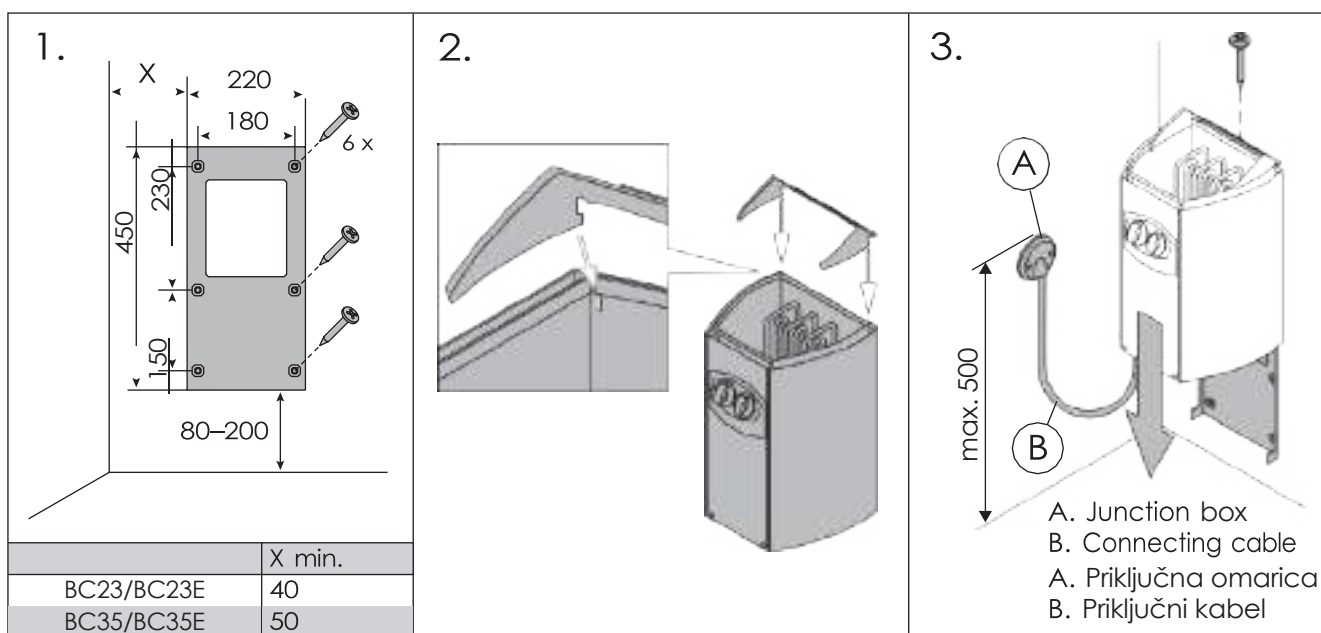

Figure 7. Fastening the heater on a wall (all dimensions in millimeters)
| Width/širina 280 mmDepth/globina• BC 295 mm• BC-E 270 mmHeight/višina 505 mmWeight/teža 7 kgStones/kamnimax. 12 kg |                    | ▷ 2.3.                 |                        |                  | See fig. 7. The measurements apply to the connecting cable only!Glej foto 7. Meritve se nanašajo izključno na priključni kabel! |        |   |        |                   |
See figure 7.
- The heater is semi-stationarily connected to the junction box (figure 7: A) on the sauna wall. The junction box must be splash-proof, and its maximum height from the floor must not exceed 500 mm.
- The connecting cable (figure 7: B) must be of rubber cable type H07RN-F or its equivalent. **NotE! Due to thermal embrittlement, the use of PVC-insulated wire as the connecting cable of the heater is forbidden.**